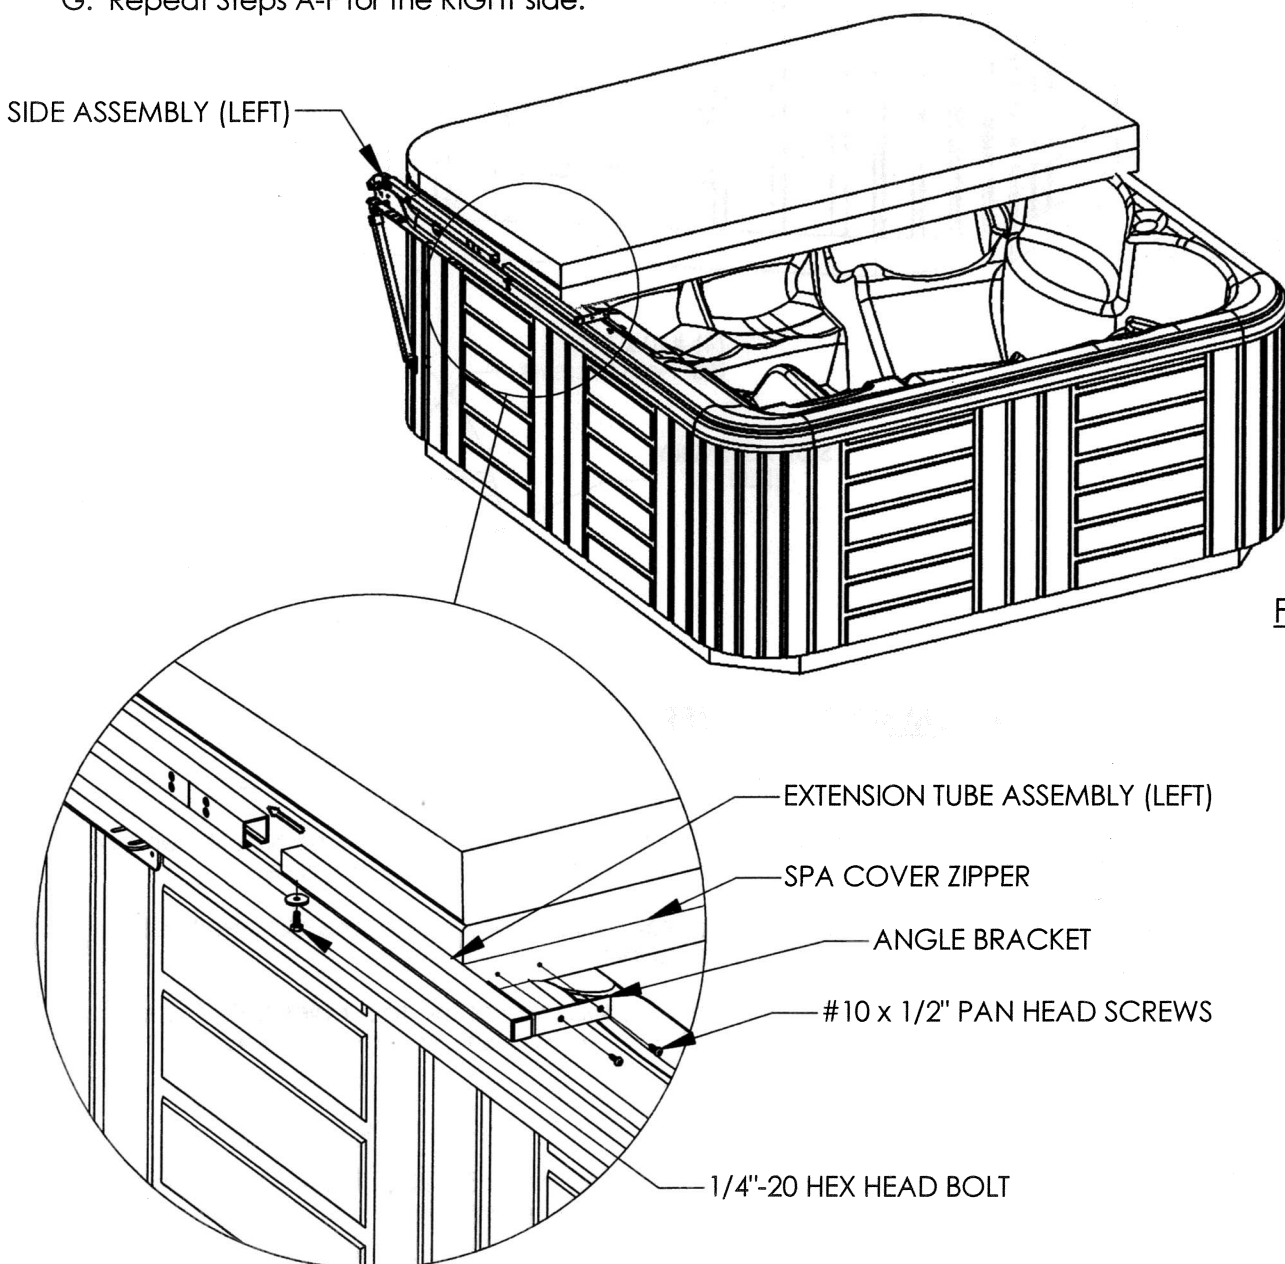

FIGURE 7
- C. Slide the Left Extension Tube Assembly in the Side Assembly making sure the 1" Washer is outside of the Side Assembly as shown below in Figure 7. Note: If the Extension Tube does not easily slide into the Side Assembly, check the Side Assembly mounting screws for interference (Step #4-F).
- E. Fasten the Angle Bracket to the cover using (2) #10 x 1/2" Pan Head Screws as shown below.